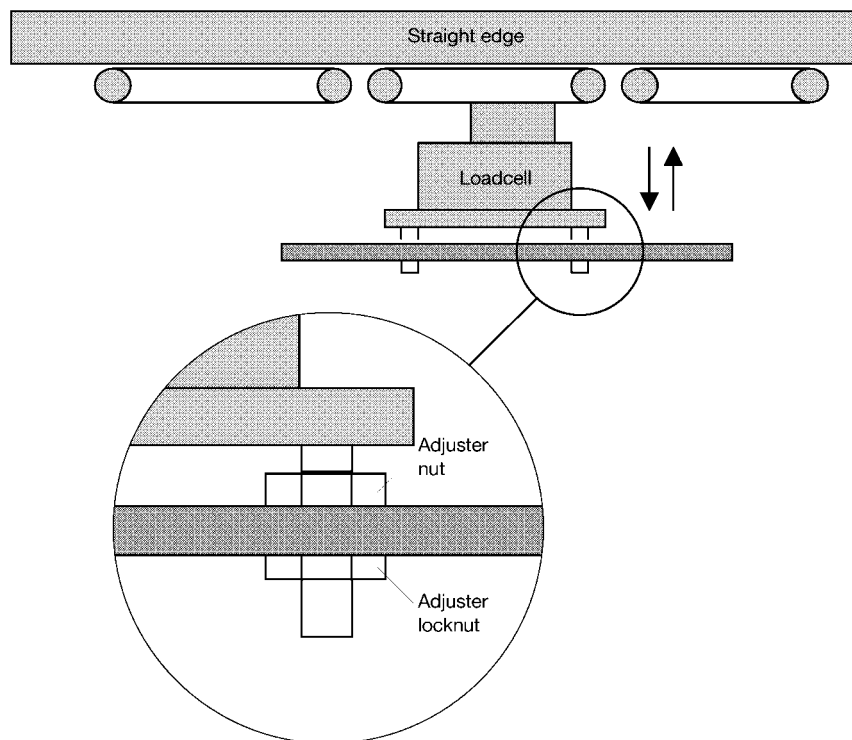

Figure 8.27 Conveyor Height Adjustment
4. If the weigh platform height needs to be adjusted the four M8 hexagon locknuts under the loadcell beam must be loosened. Refer to Figure 8.27.